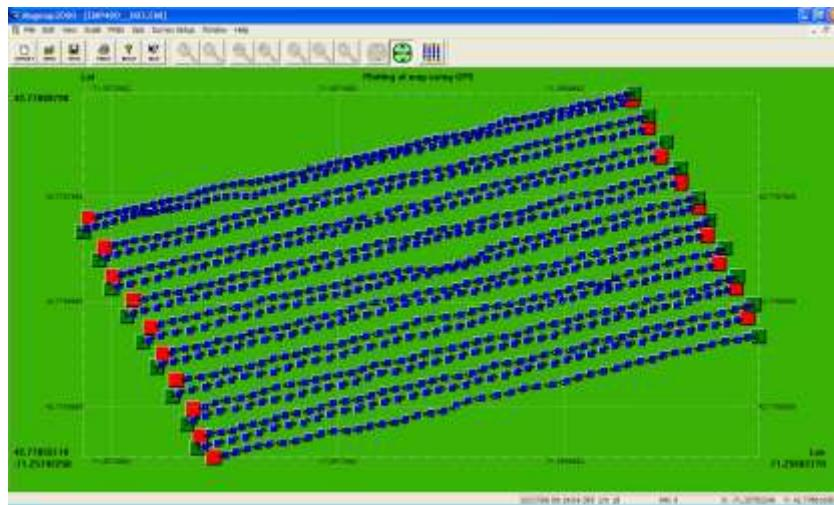

Figure 98: EM\GPS plotted data.
6. After selecting “Use GPS positions to load the data,” MagMap 2000 will display the data in Decimal Degrees format (Figure 98). The green squares indicate the start coordinate of a survey line, and the red squares indicate the end coordinate of a survey line. The blue squares indicate reading locations and the black arrows superimposed on the blue squares indicate the direction in which the transects were acquired.